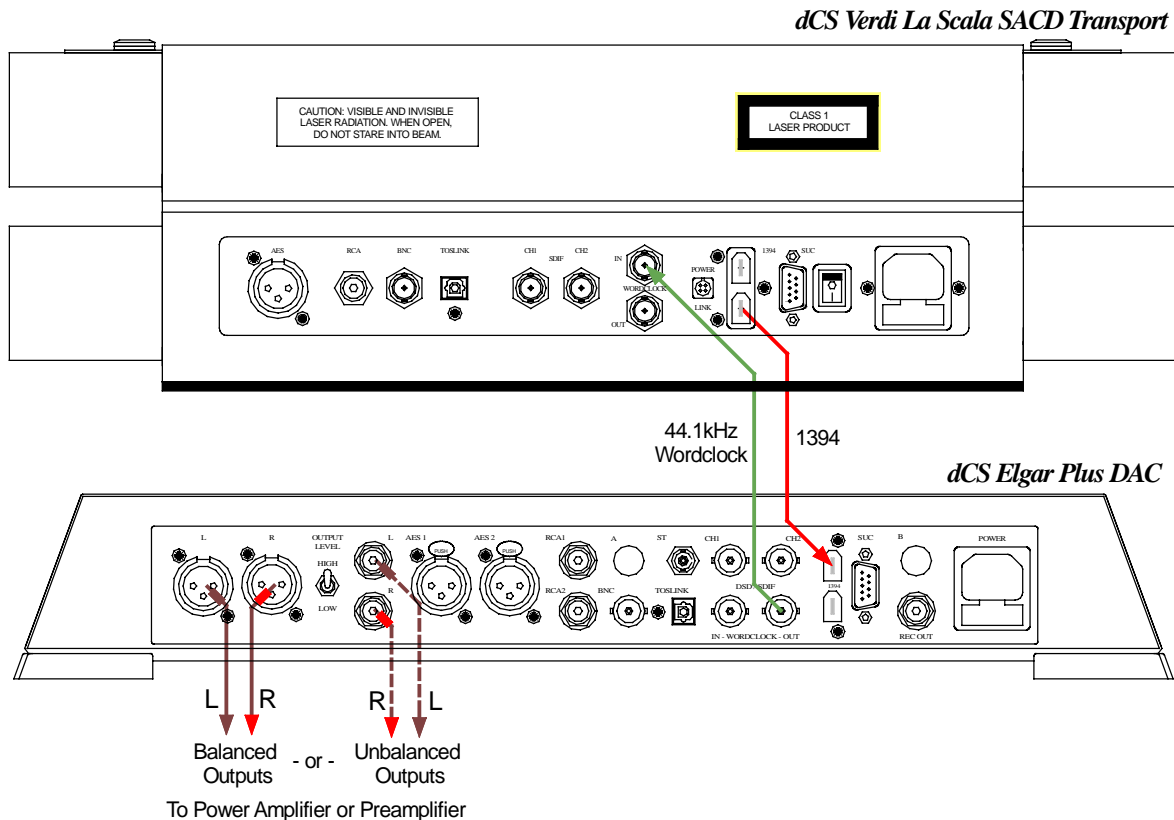

Figure 2 – Using a DAC in Master mode
**do this:** Connect up as shown in **Figure 2**.